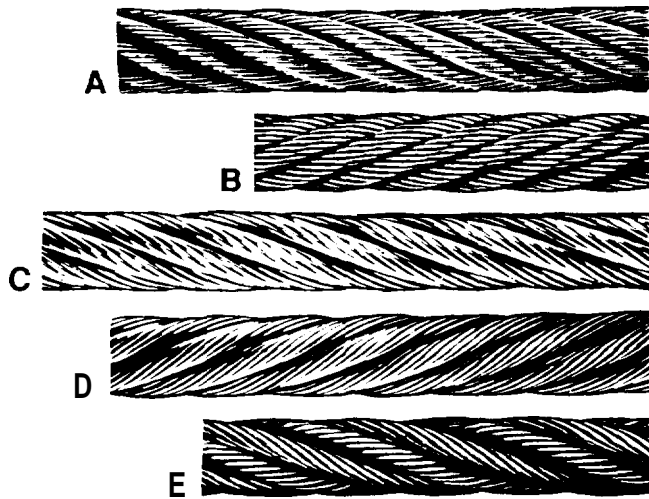

Figure 4-17.
The following illustration is a comparison of typical wire rope lays (Figure 4-17):
In Figure 4-17, illustrations (A) and (C) show strands as normally laid into the rope to the right, in a fashion similar to the threading in a right-hand bolt. Conversely, the “left lay” rope strands illustrations (B) and (D) are laid in the opposite direction.
Again in Figure 4-17, the first two illustrations (A) and (B) show regular lay ropes. Following these are the types known as lang lay ropes. Note that the wires in regular lay ropes appear to line up with the axis of the rope; in lang lay rope the wires form an angle with the axis of the rope.